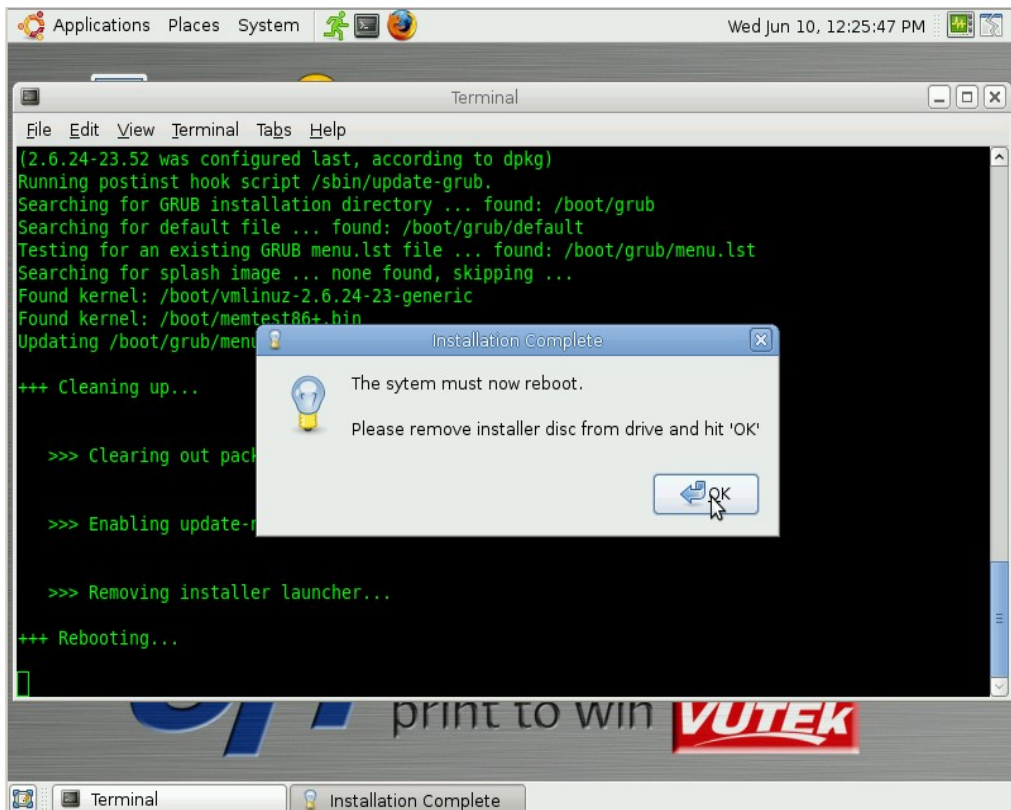

Figure 29: Reboot Dialog box
1. When Stage 2 of installation is complete, installer disc will be ejected from DVD drive. Dialog box shown in **Figure 29** will display.